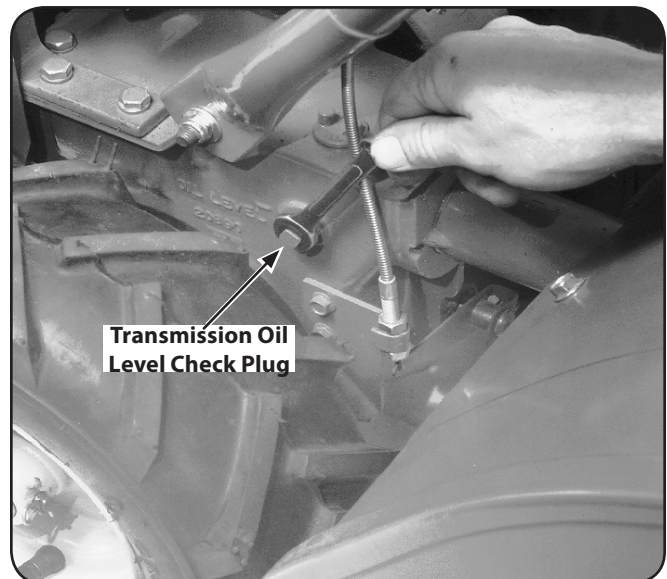

Figure 6-1
3. Remove the oil level check plug on the left-side of the transmission. Due to dried paint on the plug threads, it may require some force to remove the plug the first time. See Figure 6-1. The gear oil level is correct if oil starts to flow out of the hole as the plug is removed. If so, securely reinstall the plug.